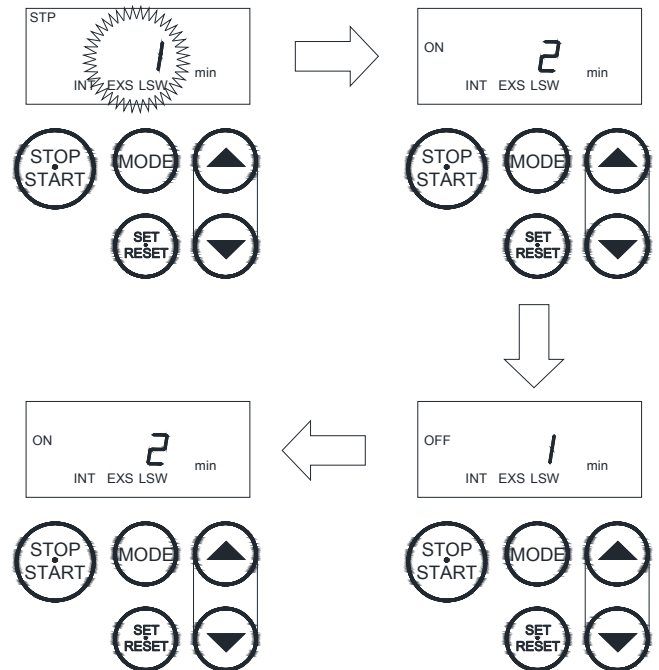

Fig. 12-4 Simple timer function mode setting
Mode indication on the lower left changes from MUL to INT. The indication on the LCD is as shown at the upper left of Fig.12-4. LCD indication 1 is the default set value.
- 2) Press the TOUCH KEY stop, start. A part 1 to be set flashes and is highlighted. Press the TOUCH KEY \triangle ∇ to set to the predetermined ON time. 2 minutes are set at the upper right in Fig.12-4.
The indication ON at the upper left of Fig.12-4 shows a screen to set ON time.
- 3) Press the TOUCH KEY stop, start. The set 2 min is confirmed, and consequently OFF time is set. The indication on the LCD is as shown at the lower right of Fig.12-4. Set 1 min for OFF time and press the TOUCH key set, reset. Now, the flashing part disappears, and setting of 2 min for ON time and 1 min for OFF time is completed.
The indication on the LCD is as shown at the lower left of Fig.12-4.